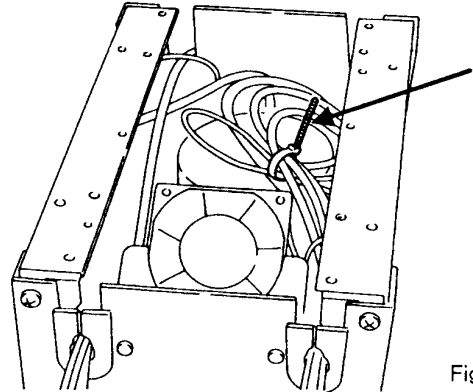

Fig. 3
- 5) Disconnect the fastener combining suction pipe. (See Fig. 3)